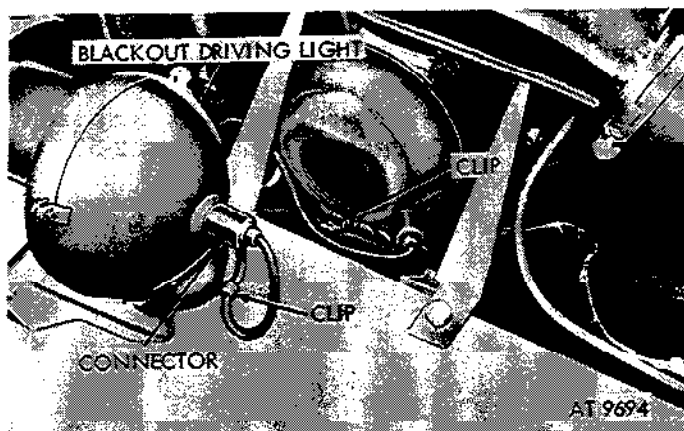
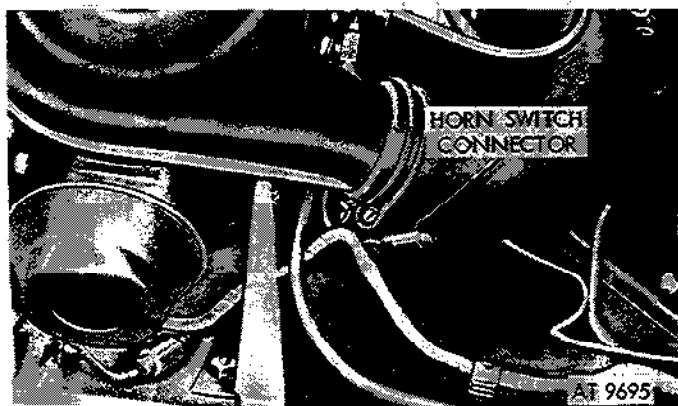

Figure 2-226. Remove clips from ground cables.
Figure 2-228. Separate connector in horn switch cable.
(5) Remove screw, nut, and lockwasher securing each ground cable clip to fender. Remove clips from ground cable (fig. 2-226).
(7) Separate connector in horn switch cable (fig. 2-228).
(5) Pull connector at blackout driving light, and remove screws from retaining clips securing cables to left front fender. Separate clips from cables (fig. 2-226.)
(6) Remove screw and two lockwashers securing ground cable terminal to firewall. Place lockwashers and screw back into position since they also secure brake and clutch pedal assembly to driver's side of firewall.
(7) Separate electrical wiring from 60 ampere generator.
(8) Disconnect horn switch connector (fig. 2-228).